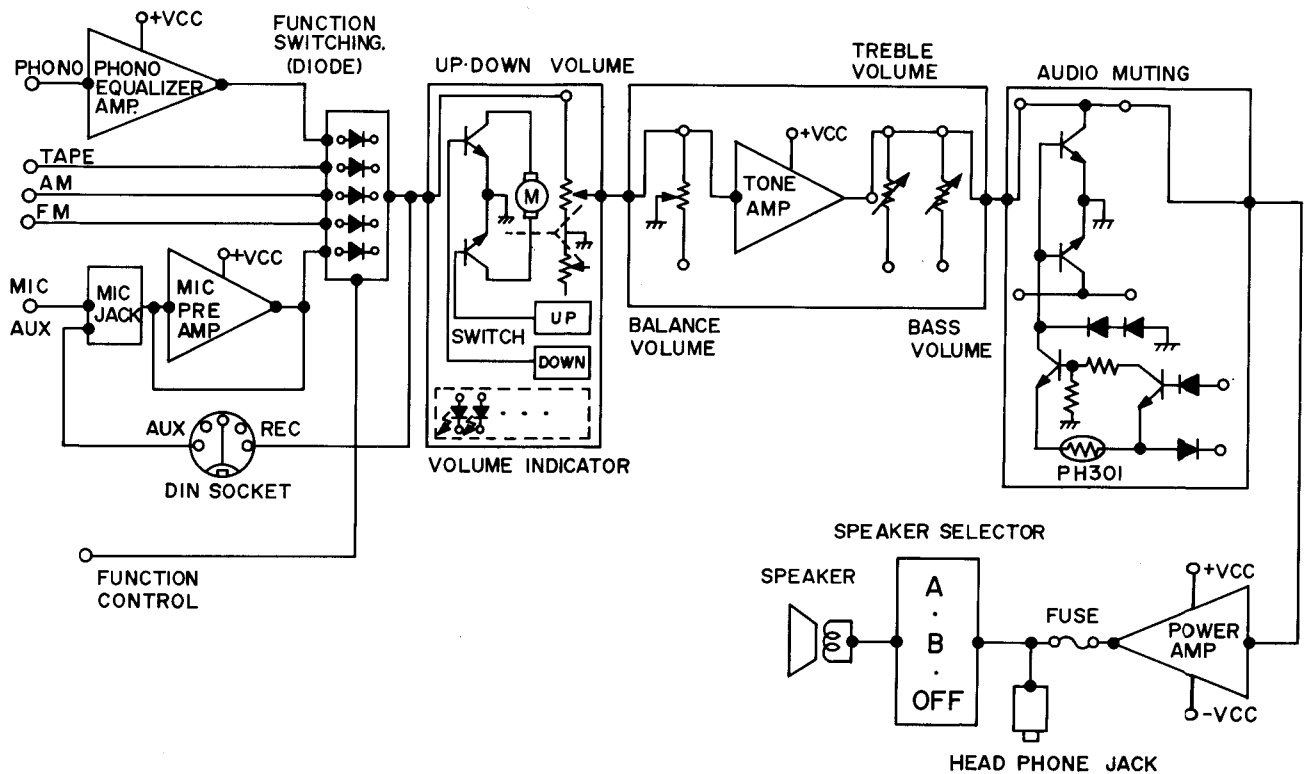

Figure 8-1
1. PRE AMP/POWER AMP/POWER SUPPLY (Refer to Figures 8-1 to 15-1)